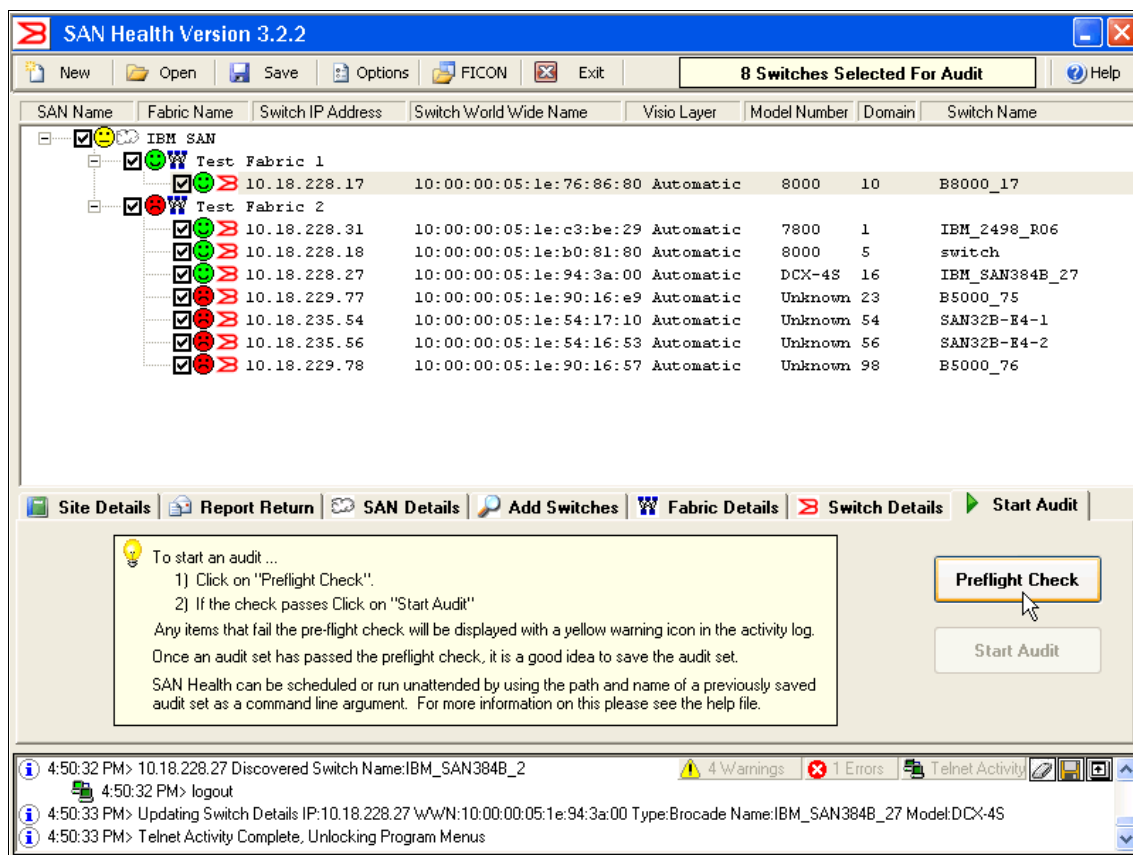

Figure 17-12 SAN Health Diagnostics Capture Start Audit
- Go to the Start Audit tab and run the *Preflight check* as shown in Figure 17-12.